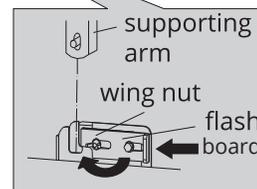

Fig.1-1
2. Find undercarriage #1 (see spot A in fig 1). Place the supporting arm into the slot on the tabletop's frame (fig 1-1)
3. Cover the supporting arm with the flash board, then screw the wing nut over the supporting arm. Tighten firmly (fig 1-1).